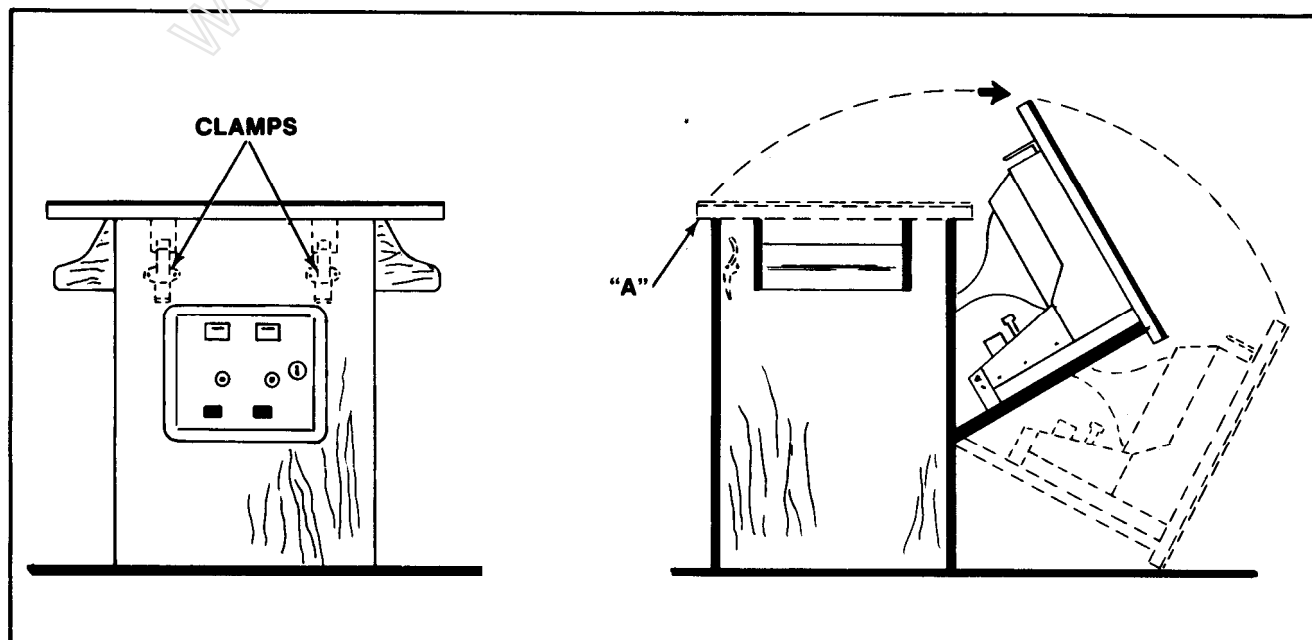

Figure 2-17 Opening the Cocktail Game
- ☐ Open the coin box door and release the two latches indicated in Figure 2-17.
- ☐ Grasp the table top at "A" and open it as indicated in Figure 2-17.
Open the coin box door and release the two latches indicated in Figure 2-17.